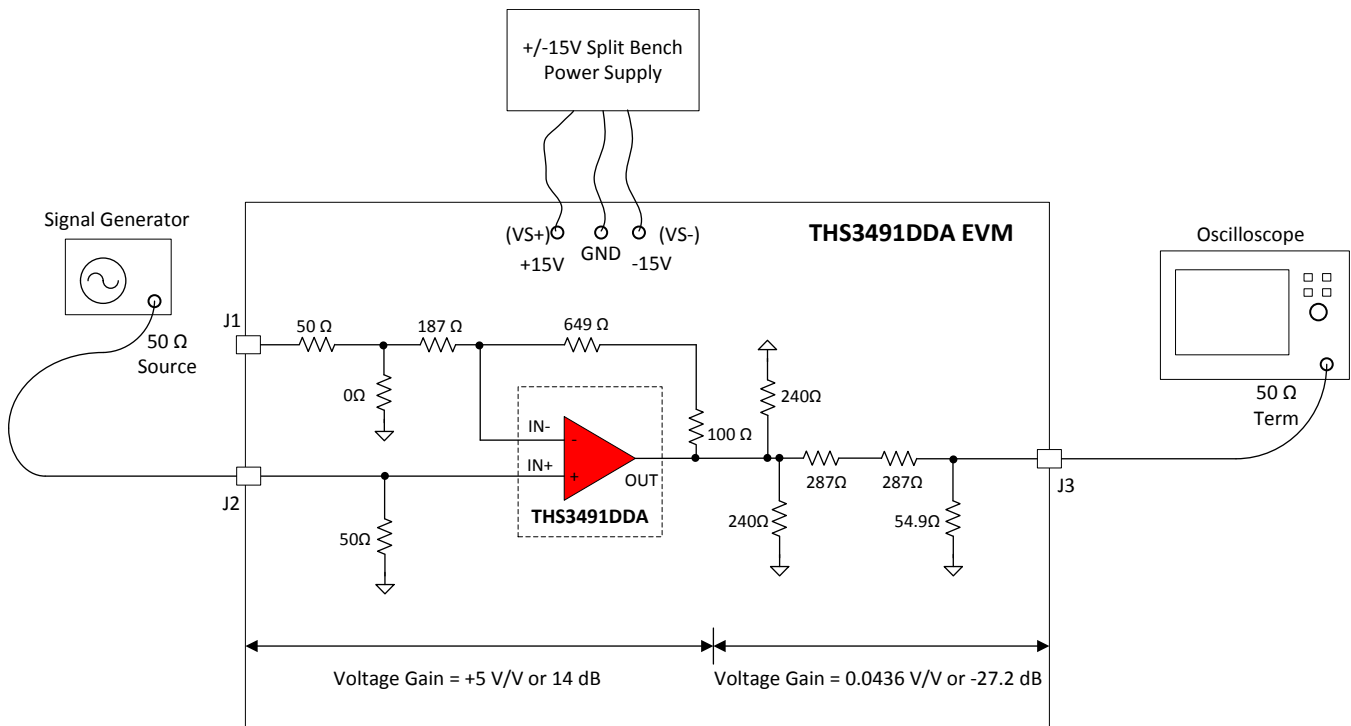
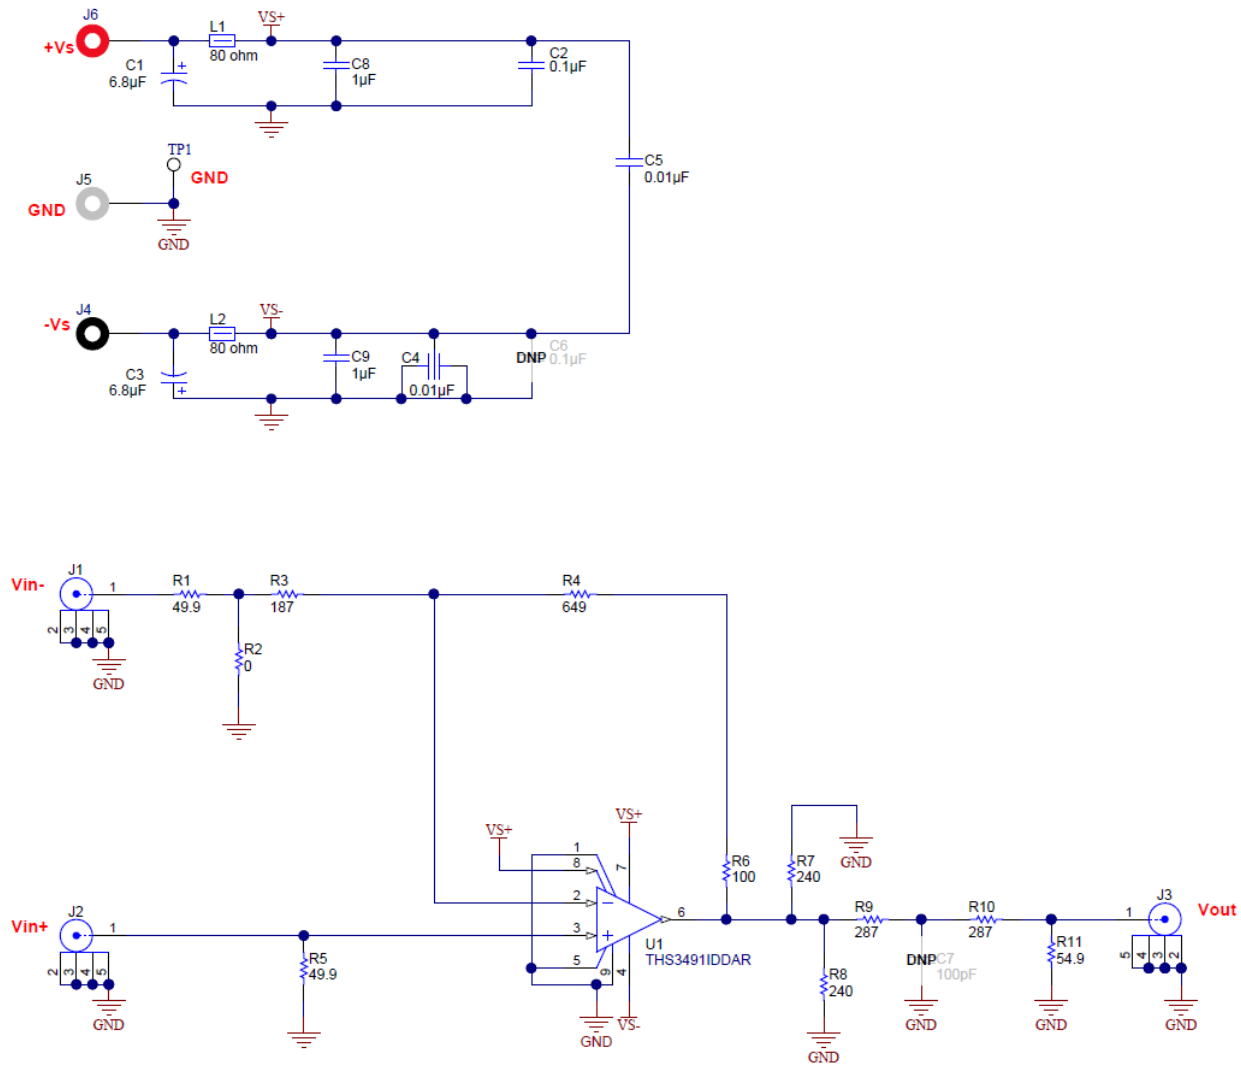

Figure 1. THS3491DDA EVM Default Configuration Setup Block Diagram
Figure 3. Full Schematic of the THS3491DDA EVM
As delivered, the EVM has a fully functional example circuit; just provide power supplies, a signal source, and a measuring instrument as shown in Figure 1. Some components, such as supply bypass capacitors and test points, are omitted on the application schematics of Figure 1 for clarity.
See Figure 3 for the default schematic diagram of the THS3491DDA EVM.
The THS3491DDA EVM default configuration is a single-ended input, single-ended output non-inverting gain of 5 from SMA input (J2) to the THS3491 device output pins as shown in Figure 1. The default configuration for non-inverting gain of 5 is determined by R3, R4, and R6 in Figure 3. This gain is calculated according to Equation 1 that is given below for non-inverting op-amp.
3.2 Power Supply Setup (Reference Figure 1)
3.3 Input and Output Test Setup (Reference Figure 1)
Figure 3 illustrates the EVM schematic.